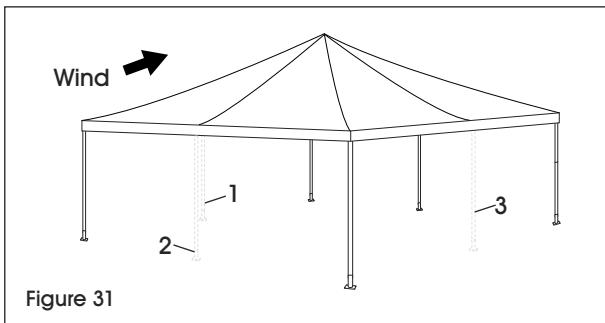

Figure 31
2. Remove three adjacent side legs. (See Figure 31)